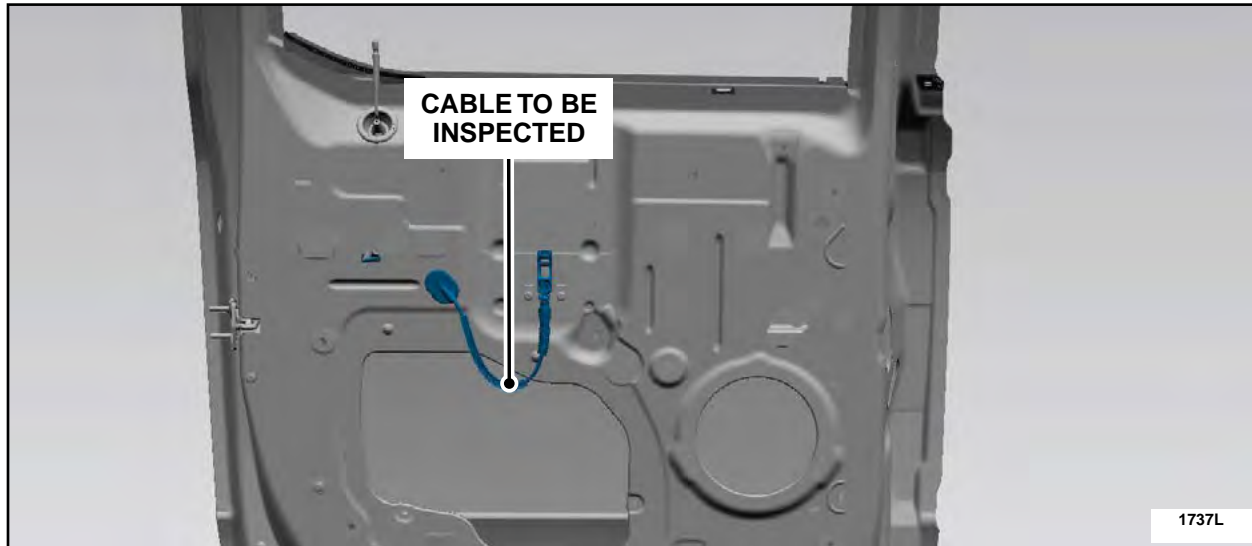

FIGURE 83
12. Inspect the interior door handle to latch cable for kinking. See Figure 83.